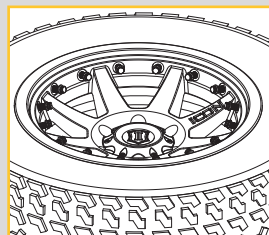

Fig.3
- 3 Mount the tire on the wheel per manufacturer specifications [Figure 3]. Do not fill the tire above 25 PSI while seating the beads. A good air supply is needed as some air will bypass the holes when seating the beads. After both the inner and outer tire beads are fully seated, deflate the tire fully by removing the valve core.